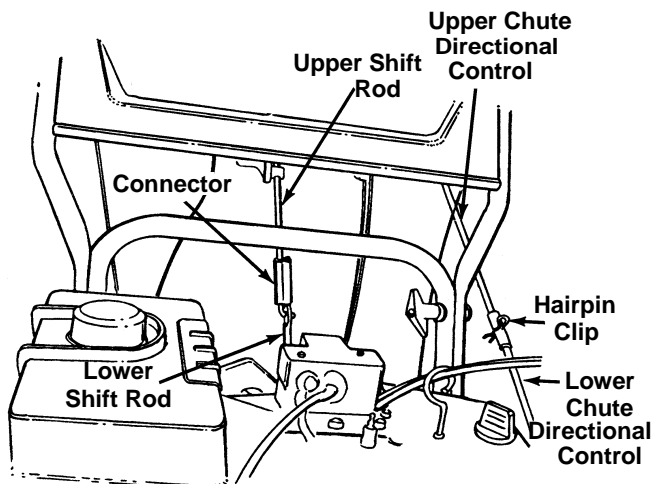

Figure 5
9. Slide the shift rod connector down over the end of the lower shift rod. See Figure 5. Tap the connector until it **locks** on the lower shift rod.
10. Remove the hairpin clip from the end of the upper chute directional control. Slide the upper chute directional control into the lower chute directional control. Align the holes, and secure with hairpin clip. See Figure 5.